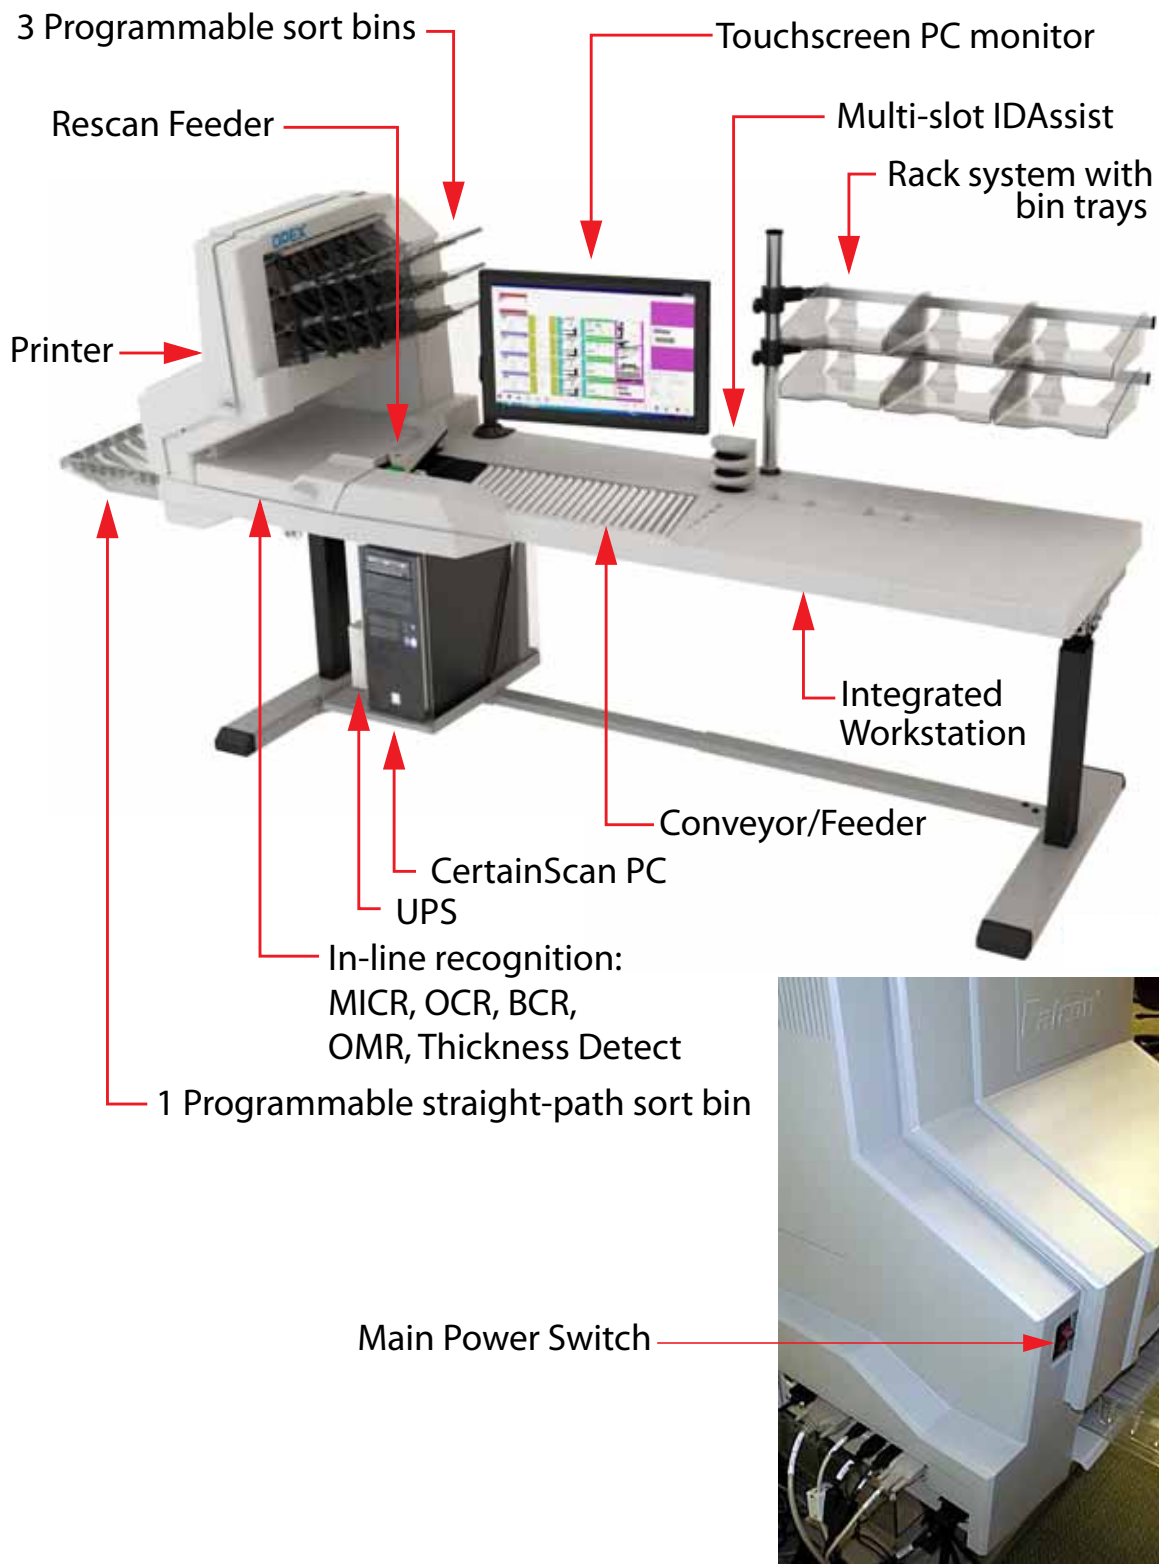

Figure 2: Main Controls and components
The list below describes many of the controls and components of the Falcon system. Refer to Figure 2 on page 20.
Main power switch The main power switch is located on the left cover, as shown in Figure 2. This is the main “on/off” switch for the Falcon system.
- 1 Turn on the main power switch (see Figure 2).